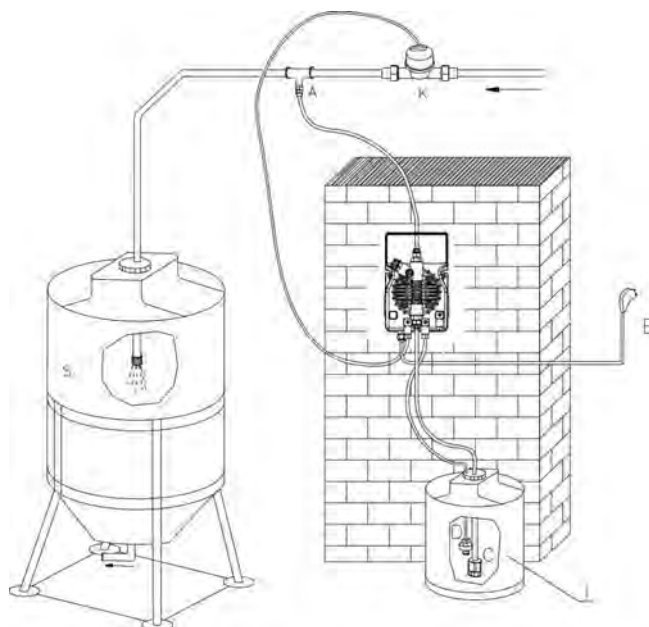

Fig. 14
6.2 - SCHEMA DI IMPIANTO TIPICO (Fig. 14)